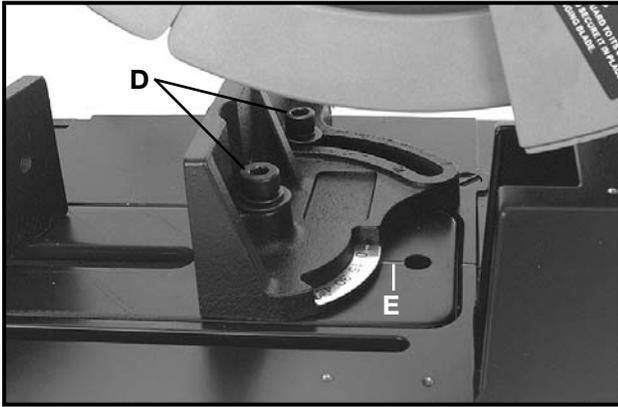

Fig. 8
To adjust the angle of the stationary jaw, use the 8mm hex wrench (provided) to loosen the two clamp bolts (D) Fig. 8, rotate the stationary jaw until the desired angle indicator is aligned with the index mark (E) Fig. 8, then retighten the two clamp bolts securely.
To change position of the stationary jaw, use the 8mm hex wrench (provided) to remove the two clamp bolts (D) Fig. 8, reposition the stationary jaw to the other pair of mounting holes, reinstall the two clamp bolts and tighten securely.